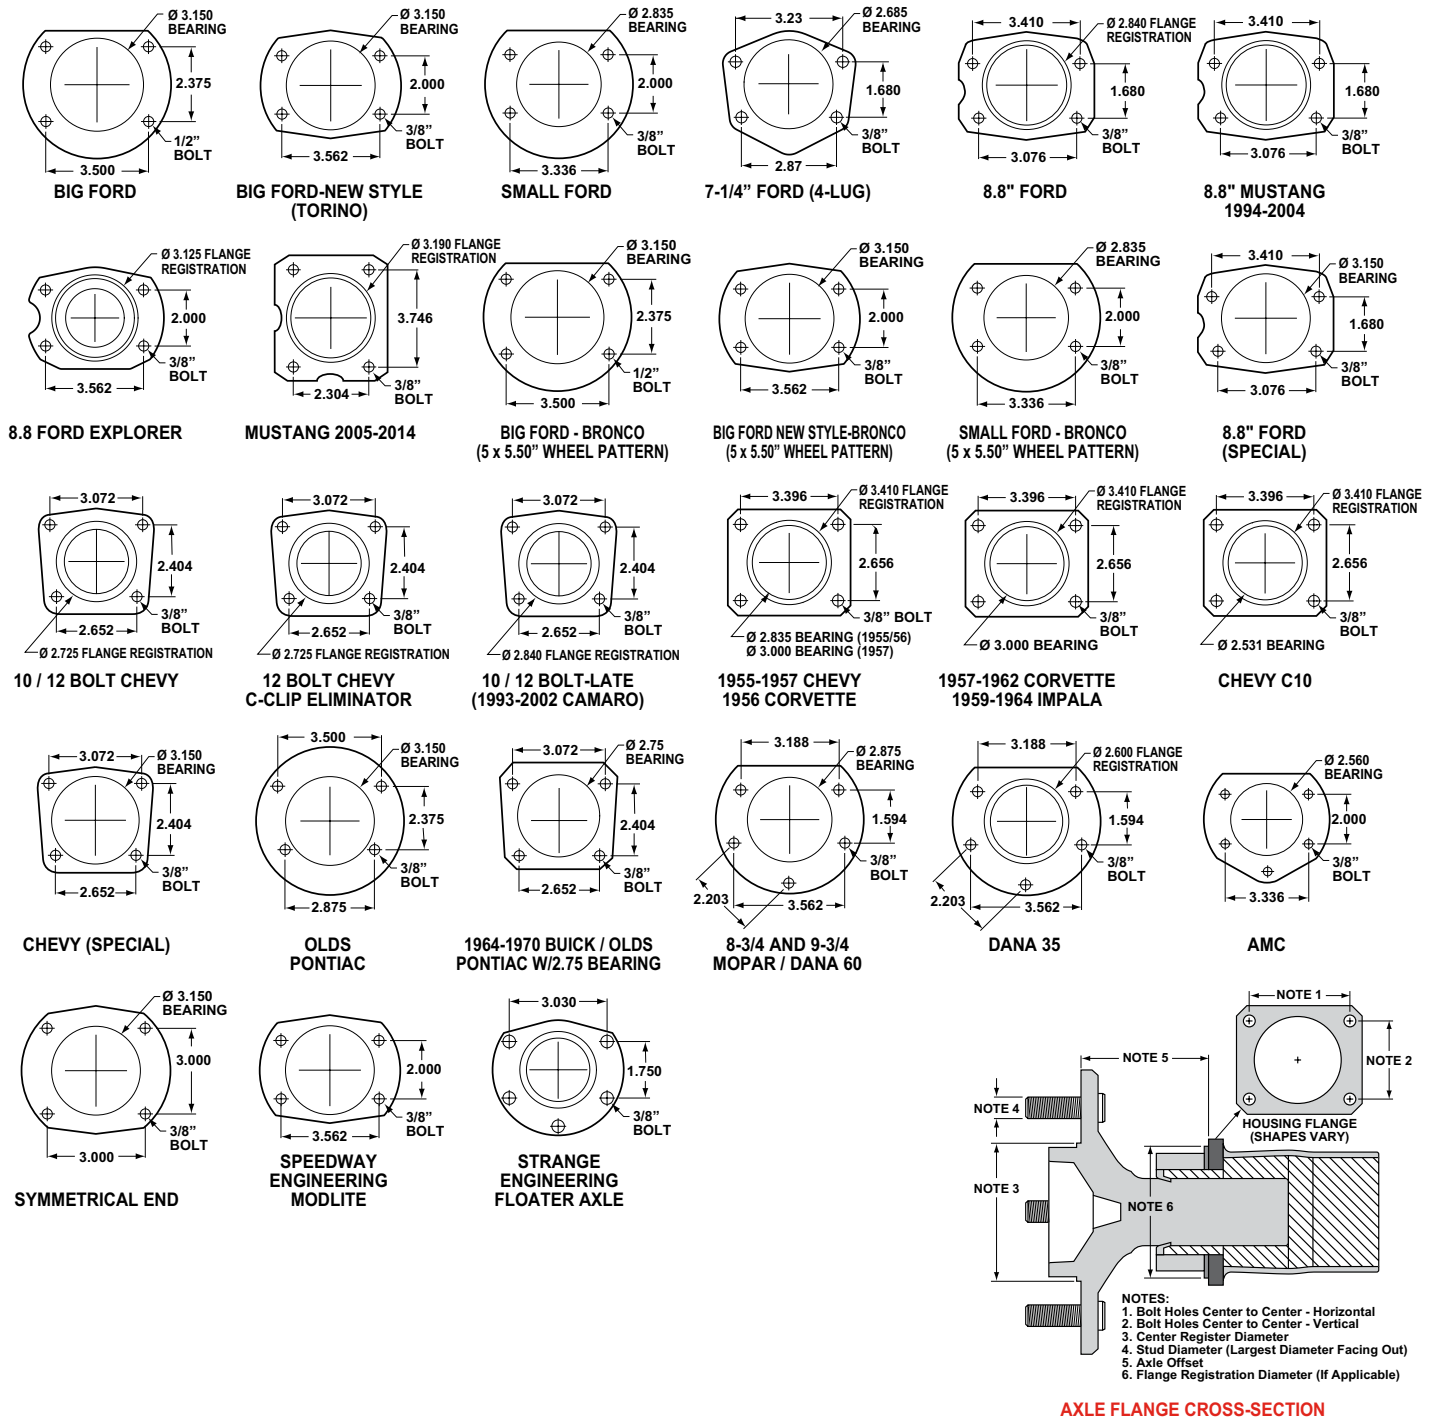

Figure 5. Rear Housing Flange Chart and Axle Flange / Offset Cross-Section
•Make sure this is the correct kit to fit the axle housing flange, not necessarily the rear end make. Many times aftermarket manufacturers put a different make of axle housing flange on the stock rear end housing (Figure 5). Example; Big Ford rear ends with Olds-Pontiac flanges, therefore, an Olds-Pontiac rear disc brake kit would be the correct kit to order. Also, shock clearance may be a problem. They may have to be modified and/or relocated to clear the Wilwood kit after final assembly.
- Dimension from wheel side of axle flange to wheel side of axle housing flange (see Figure 5, lower right hand corner). This dimension is critical to ensure proper alignment of the rotor to the caliper, and should match offset given in the kit description.